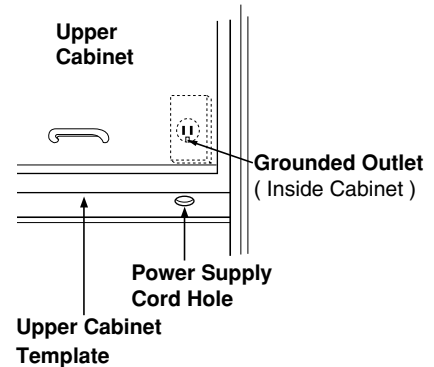

Figure 5
1. Locate the grounded electric outlet for this oven in the cabinet above the oven, as shown in Figure 5.
2. Attach the upper cabinet template to the upper cabinet wall with clear type and cut the power-supply-cord hole (shown in Figure 5) later when you prepare the wall and upper cabinet in Step 4.